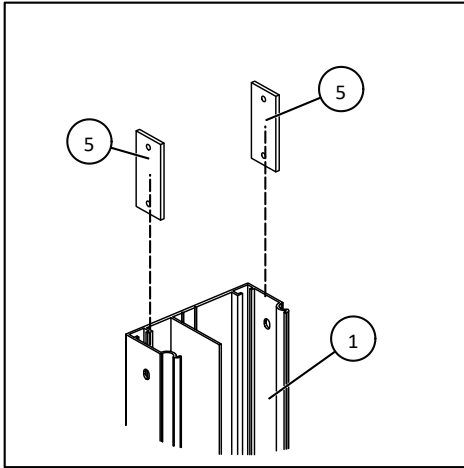

Figure 3
STEP 4: If the ceiling height exceeds 96 inches, attach the power pole extension as shown in Figures 3, 4, 5, and 6.